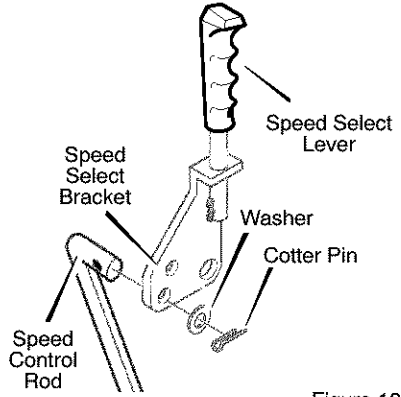

Figure 10
2. Attach the **speed control rod (end with 90° bend)** to the **speed select bracket** with **washer** and **cotter pin**. See Figure 10.